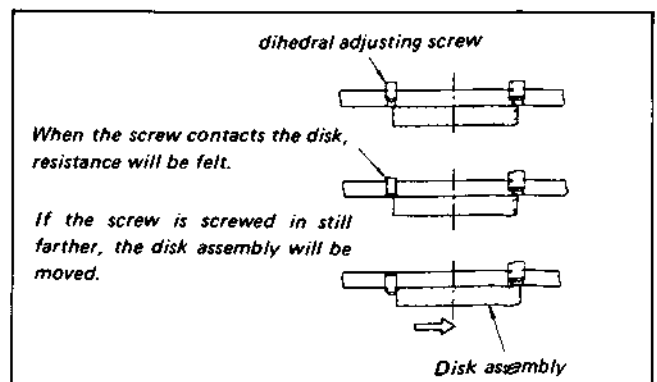

Fig. 3-12 Video Head Dihedral Adjustment (3)
- 2) Of the two adjusting screws, screw in farther either one of them until resistance is felt. Screwing in the screw farther, the video head moves, and dihedral adjustment can be made. (See Fig. 3-12)